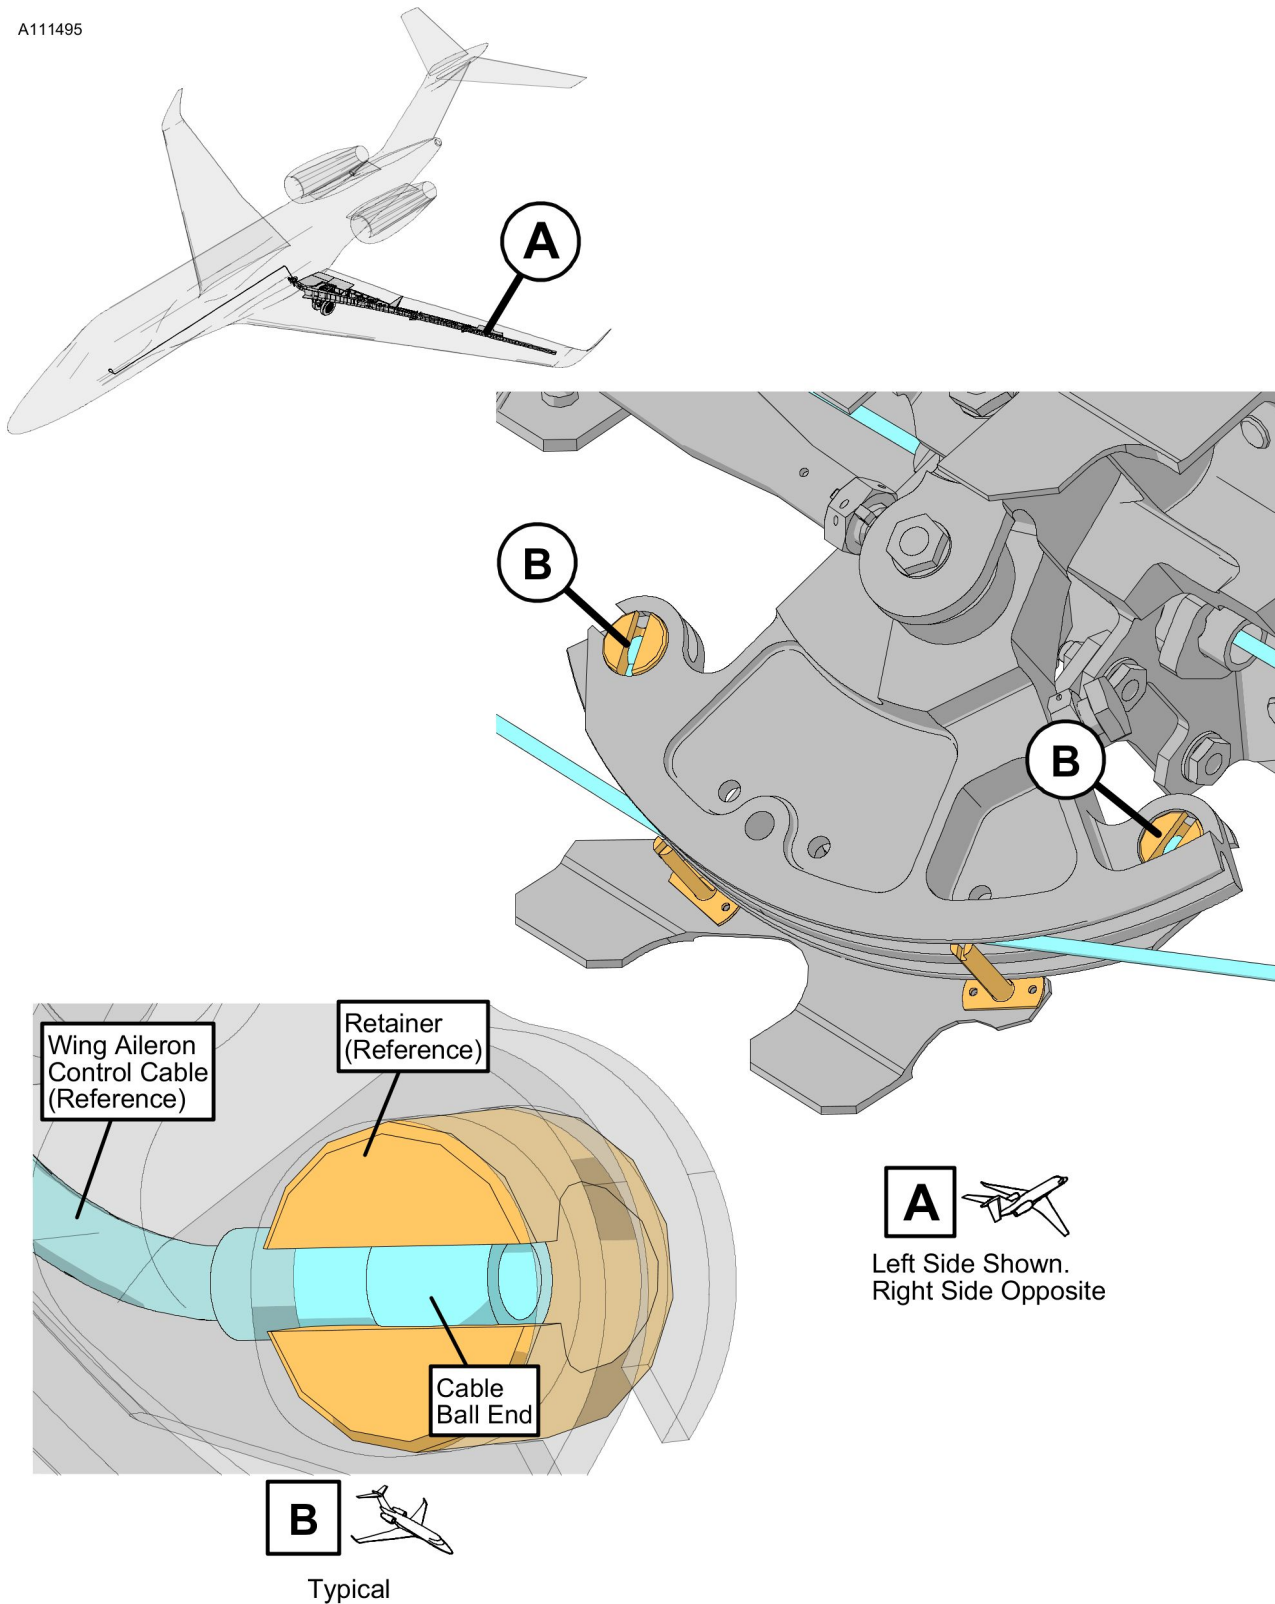

Figure 1. Wing Aileron Control Cable Inspection (Sheet 1)
4. (Refer to Figure 1.) Make sure that the wing aileron control cable is installed in the correct position in the 7461166-14 Retainer.
**NOTE:** The ball end of the aileron cable should be installed with the cable and ball inserted in the 7461166-14 Retainer recess (Refer to Figure 1, Detail B.)
5. (Refer to Figure 1, Detail B.) If the wing aileron control cable is installed in the correct position of the 7461166-14 Retainer as shown, go to Step 7.
- (1) Make sure there is no damage to the aileron sector cable radius.
- E. (Refer to Figure 1, Detail B.) Install the wing aileron control cable in the slot on the retainer recess and pull the ball end into the 7461166-14 Retainer.